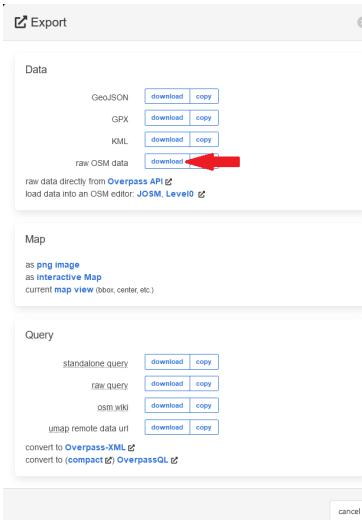

Figure 9: Downloading the JSON file with OverpassTurbo.
3. Download the result as a JSON file by clicking on the 'Export' button and then on 'Download' next to 'OSM raw data' (see Figure 9). The 'export.json' file will be saved in your Downloads folder or your chosen location.